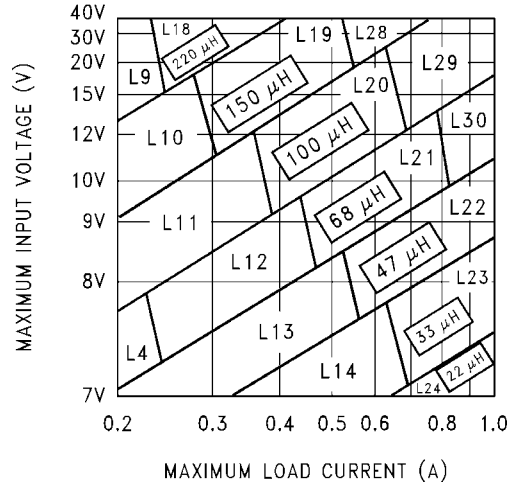
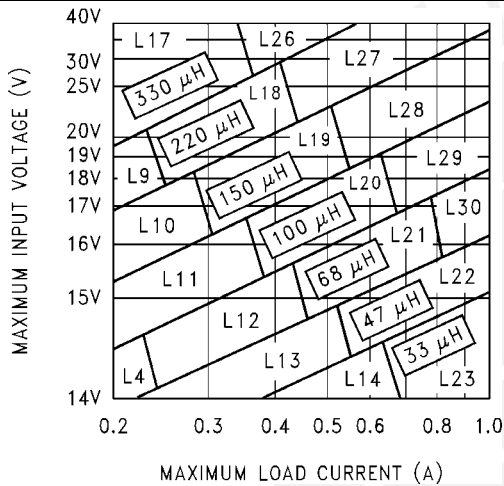

Figure 36. LM2598-5.0
Figure 37. LM2598-12
To simplify the inductor selection process, an inductor selection guide (nomograph) was designed (see Table 1 through Figure 37). This guide assumes that the regulator is operating in the continuous mode, and selects an inductor that allows a peak-to-peak inductor ripple current to be a certain percentage of the maximum design load current. This peak-to-peak inductor ripple current percentage is not fixed, but is allowed to change as different design load currents are selected. (See Figure 34.)
The selection guide in Figure 36 shows that the vertical line for a 0.8-A load current and the horizontal line for the 12-V input voltage intersect approximately midway between the upper and lower borders of the 68- $\mu\text{H}$  inductance region. A 68- $\mu\text{H}$  inductor allows a peak-to-peak inductor current ( $\Delta I_{IND}$ ) to a percentage of the maximum load current. Referring to Figure 39, follow the 0.8-A line approximately midway into the inductance region, and read the peak-to-peak inductor ripple current ( $\Delta I_{IND}$ ) on the left hand axis (approximately 300-mA p-p).
1. Select the correct inductor value selection guide from Figure 35, Figure 36, or Figure 37 (Output voltages of 3.3 V, 5 V, or 12 V respectively.) Use the inductor selection guide for the 5-V version shown in Figure 36.